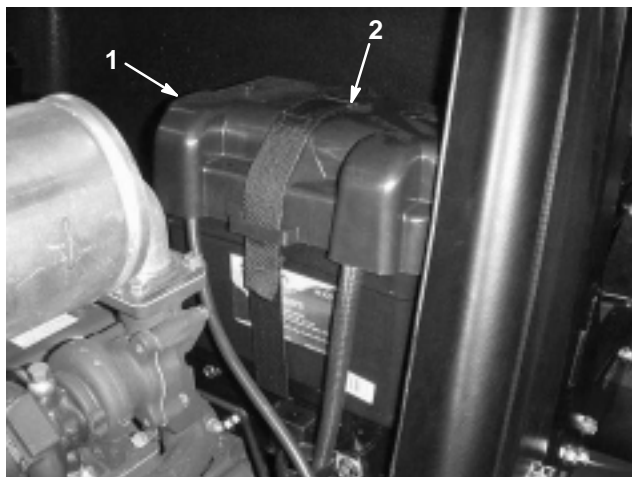

Figure 55
2. Remove the battery strap and cover (Fig. 55).